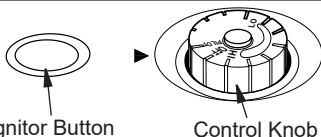

Figure 16 - Control Knob in the OFF Position
4. Wait five (5) minutes to clear out any air. Then smell for gas, including near the floor. If you smell gas, STOP! Follow "B" in the safety information, page 14. If you do not smell gas, go to the next step.
5. Turn control knob counterclockwise  to the PILOT position. Press in control knob for five (5) seconds (see Figure 16). *Note: The first time that the heater is operated after connecting the gas supply, the control knob should be pressed for about thirty (30) seconds. This will allow air to bleed from the gas system. If pilot does not stay lit, refer to Troubleshooting, pages 19 through 21. Also contact a qualified service technician or gas supplier for repairs. Until repairs are made, light pilot with match.*